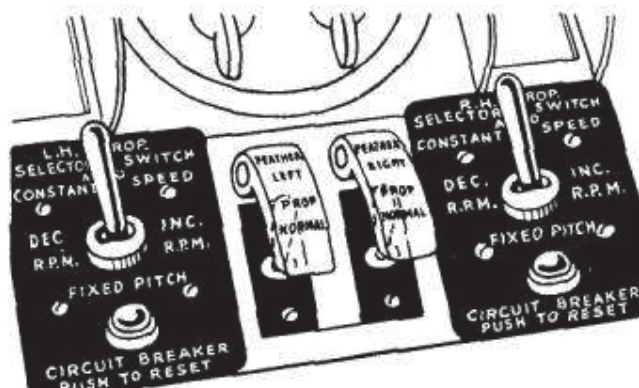

Figure 48—Propeller and Feathering Switches
(25) Propeller governor control levers full forward to "INC. RPM." (See figure 48.)
(26) Propeller toggle switches "AUTO CONSTANT SPEED" and "FEATHER" switches "NORMAL." (See figure 48.)